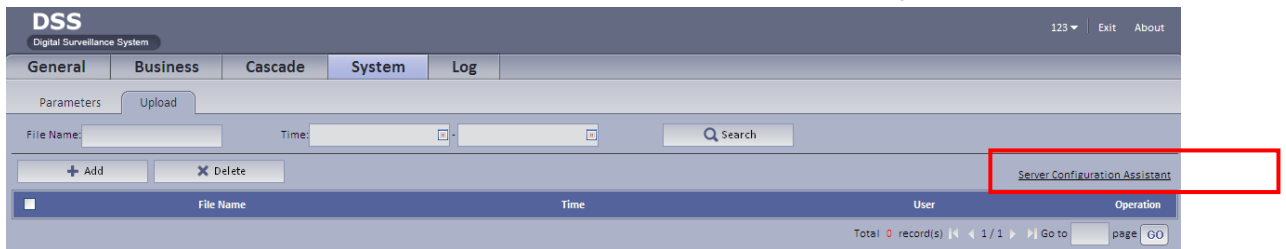

Figure 2-5
- c) From system->Upload, the interface is shown as below. See Figure 2-5.